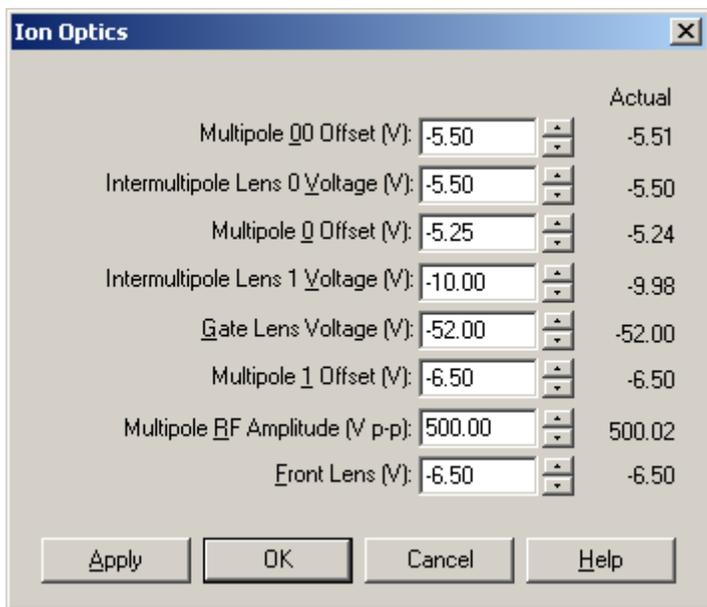

Figure 26. Ion Optics dialog box, showing examples of voltages of lenses and Intermultipoles, which are optimized by the LTQ XL automatic tuning procedure
- Click the **Ion Optics** toolbar button to display the Ion Optics dialog box. The parameters in the Ion Optics dialog box are optimized automatically by the LTQ XL MS detector. See Figure 26.